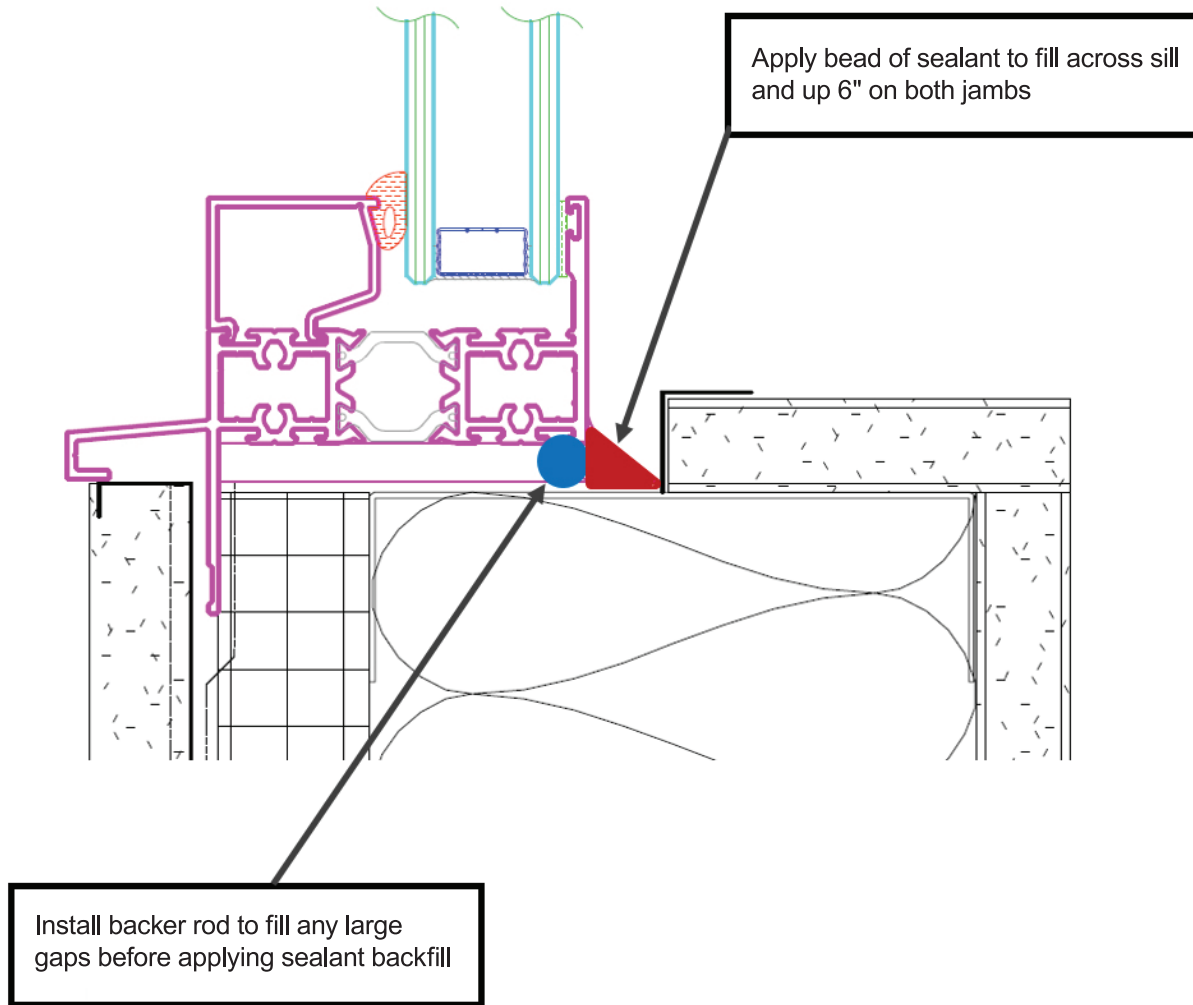

FIGURE 7
9. Seal interior of window as shown below in Figure 7.